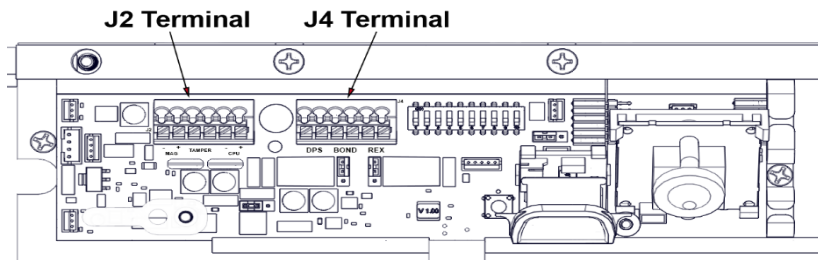

Figure 32. Location of J2 and J4 Terminals
1. CONNECT wiring using Figures 32 – 34 as guides and as applicable.